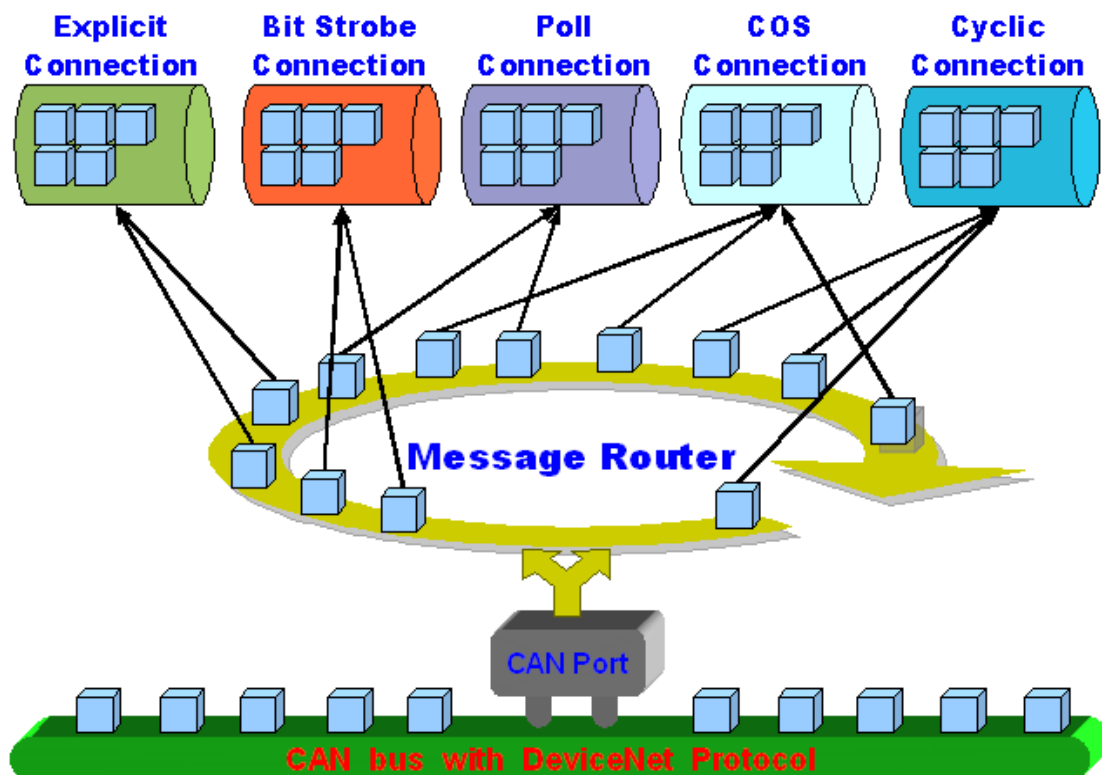

Figure 1.6 Message Router
1.5 PISO-DNM100(U) Firmware Characteristics
The PISO-DNM100(U) is a high-performance DeviceNet master board. The firmware inside the board implements DeviceNet protocol automatically when the board is active. The firmware always listens to the bus and receives the message at the same time. It works as shown in Figure 1.6.